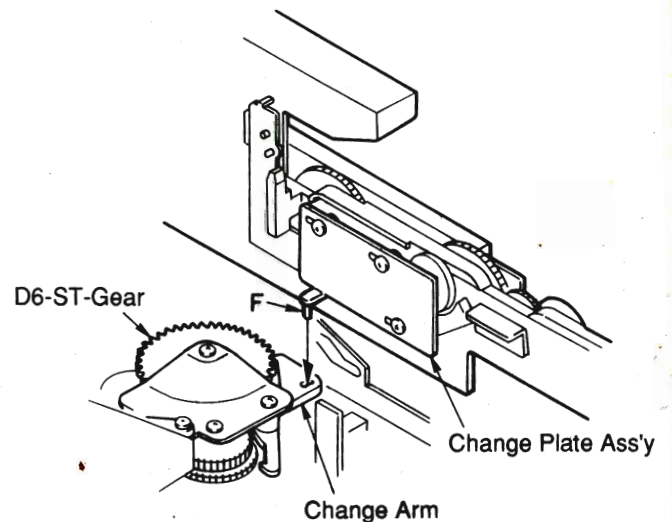

Fig. 2.7.3
- (1) Push the Change Arm against the D6-ST-Gear so that they are engaged each other. Refer to Fig. 2.7.3.
- (2) Place the Side Chassis R Section so that the pin "F" of the Side Chassis R Section is inserted into the hole in the Change Arm, as shown in Fig. 2.7.3.